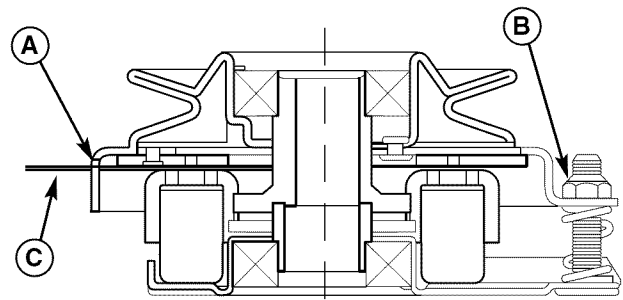

Figure 27. Adjust PTO Clutch
3. Insert a .012"-.015" (2,5-4 mm) feeler gauge (C) through each window, positioning the gauge between the rotor face and the armature face as shown in Figure 27.
4. Alternately tighten the adjustment nuts (B, Figure 27) until the rotor face and armature face just contacts the gauge.